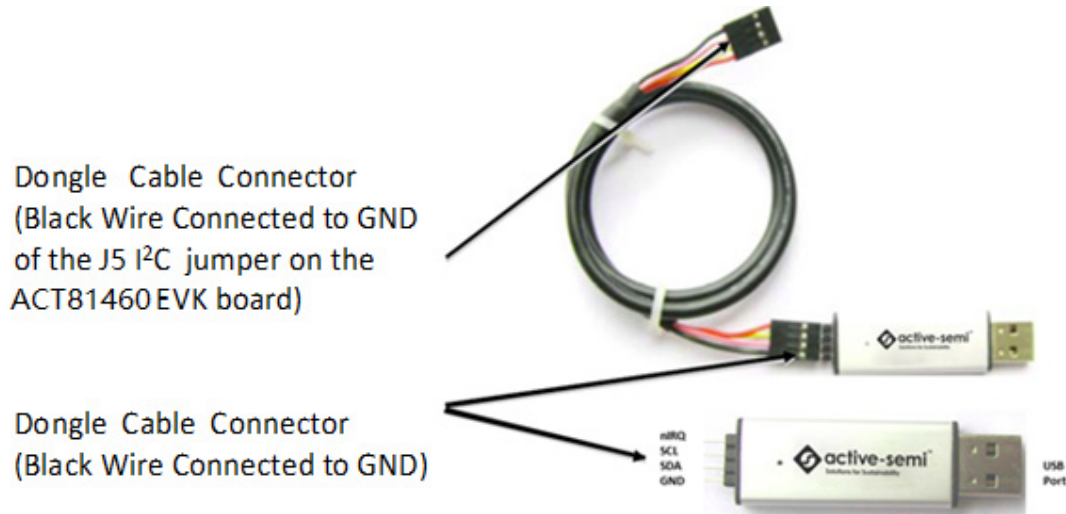

Figure 4 – USB-TO-I2C Dongle Connection
3. Connect the USB-TO-I2C dongle to the EVK J5 connector. Refer to Figure 4 to ensure the correct polarity of the connection. As a guide, use the “Active-Semi” logo on the top of the dongle so the black wire is connected toward the lower left corner of the Dongle.